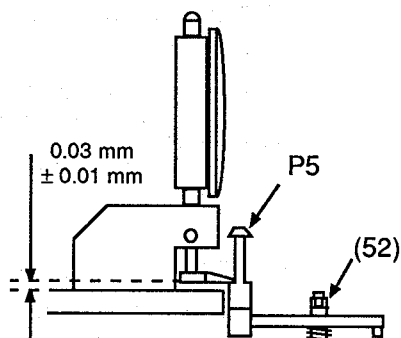

Fig. 33
- Place the Dial Height Gauge as shown in Fig. 33 onto the lower guide collar of the Tape Pull-out Bolt P5 and adjust the nut (52) until the pointer of the Dial Height Gauge indicates $0.03 \text{ mm} \pm 0.01 \text{ mm}$.